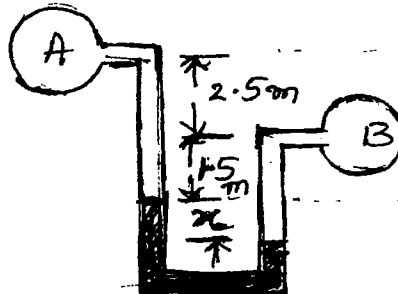

Fig.Q2(c)
- c. Fig.Q2(c) shows a differential manometer connecting two points A and B. Pipe A contains carbon tetrachloride of specific gravity 1.594 under a pressure of 1.05 kgf/cm² and pipe B contains oil of specific gravity 0.8 under a pressure of 1.75 kgf/cm². If the manometer liquid is mercury, find the difference 'x' between the mercury levels.